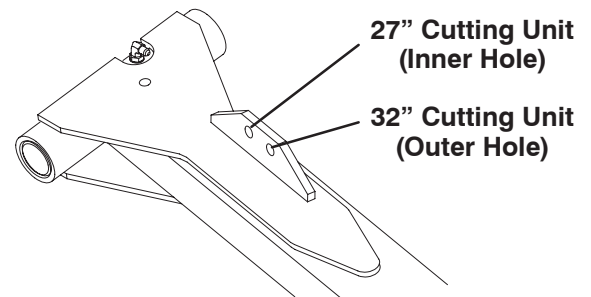

Figure 6
- Secure the other end of the lift chain to the hole in the lift arm mounting tab with clevis pins and cotter pins. Use the appropriate hole in the lift arm as designated in Figure 6.